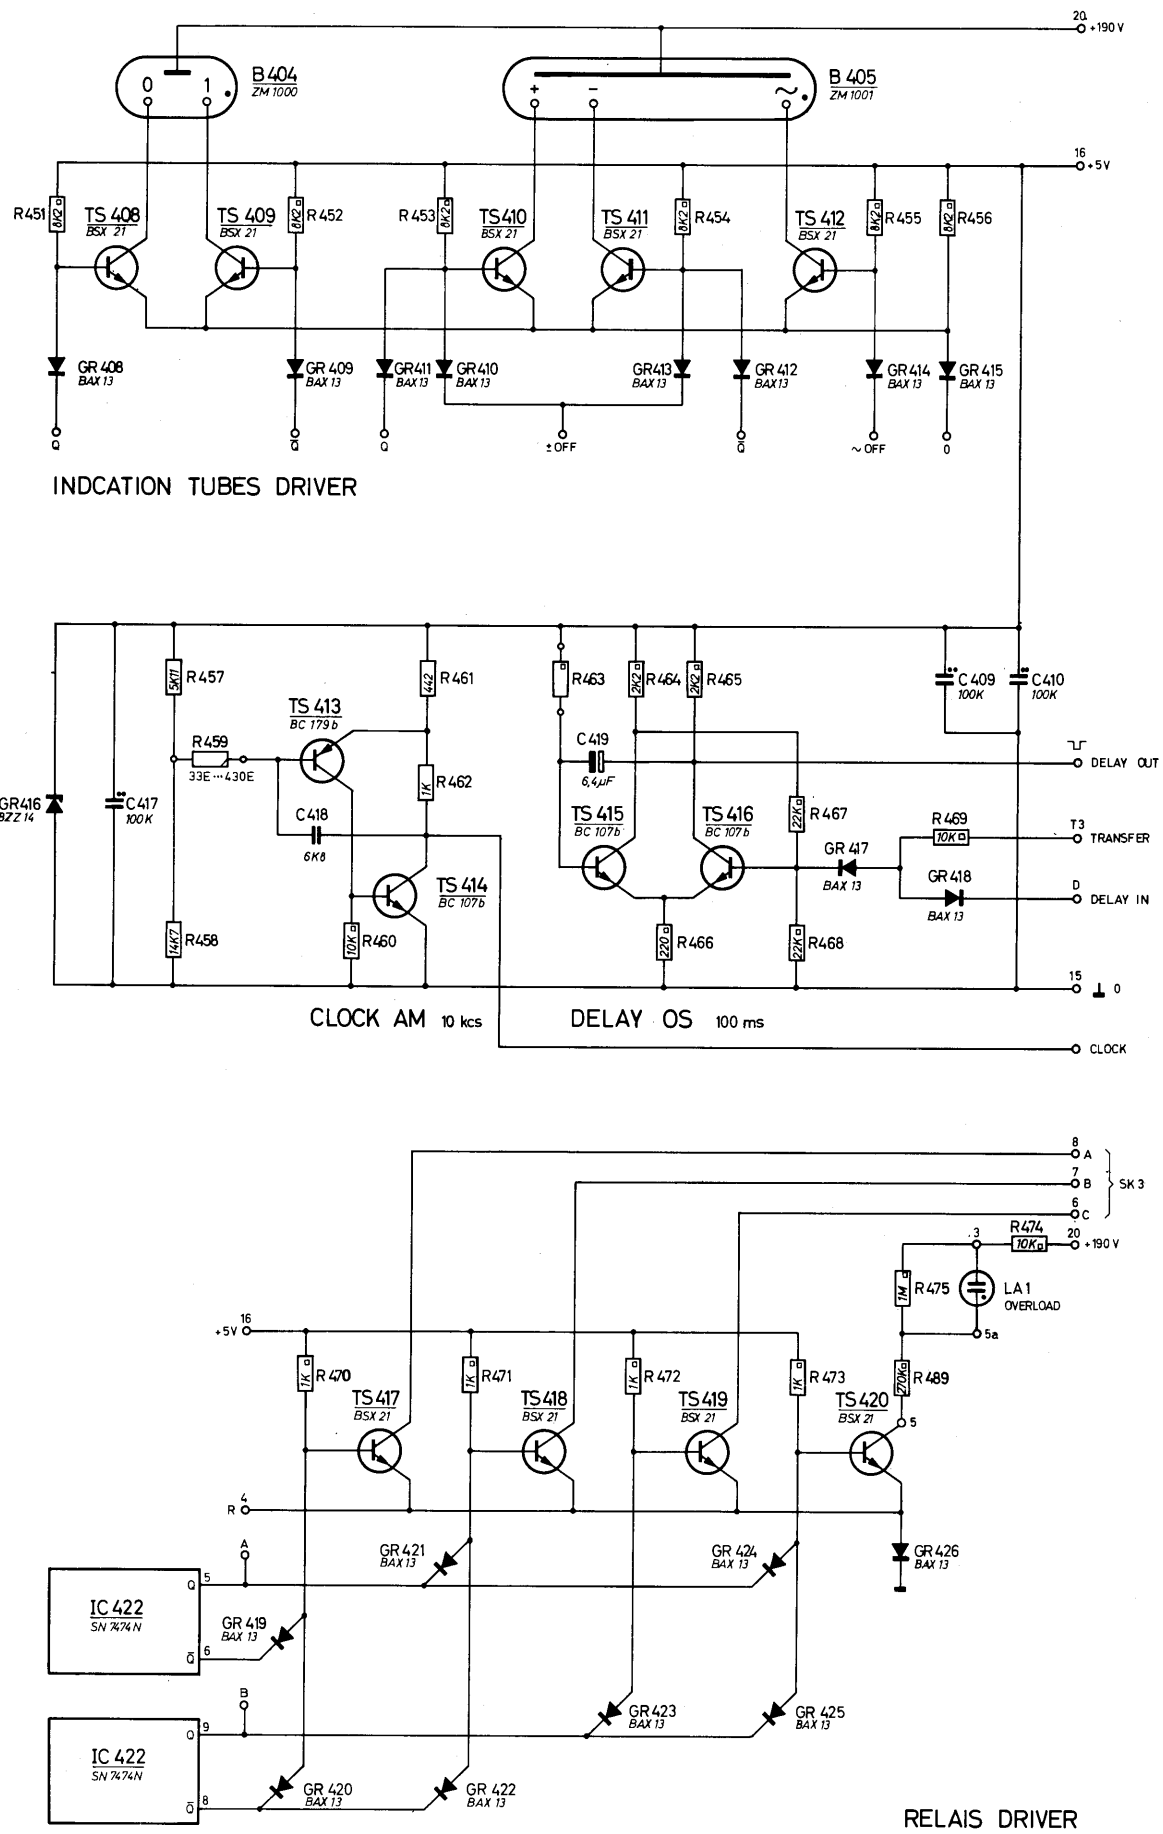

Fig. 36. Circuit diagram indication tube driver, clock oscillator delay one shot and relay driver
14. Relay drivers (Fig. 36)
16. Delay circuit (Fig. 36)